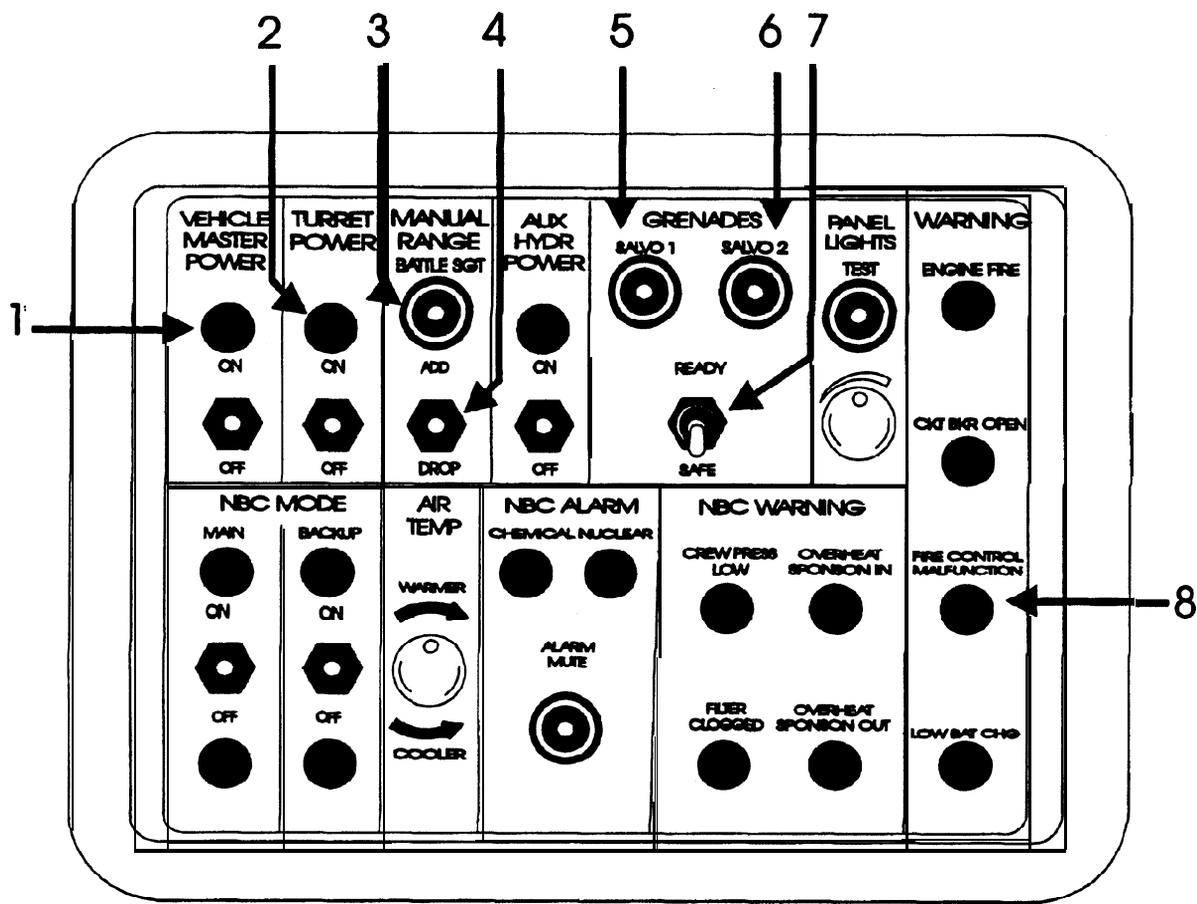

Figure 2-12. Commander's Panel (M1A1)
2.3.1.4 Commander's Panel. The Commander's Panel, shown in Figures 2-12 and 2-13, is the actual tank panel connected to the commander's cable section of the tank interface harness. The simulator does not sense or illuminate all switches and lights. Only those specified will be active. The following simulator controls and indicators are active: